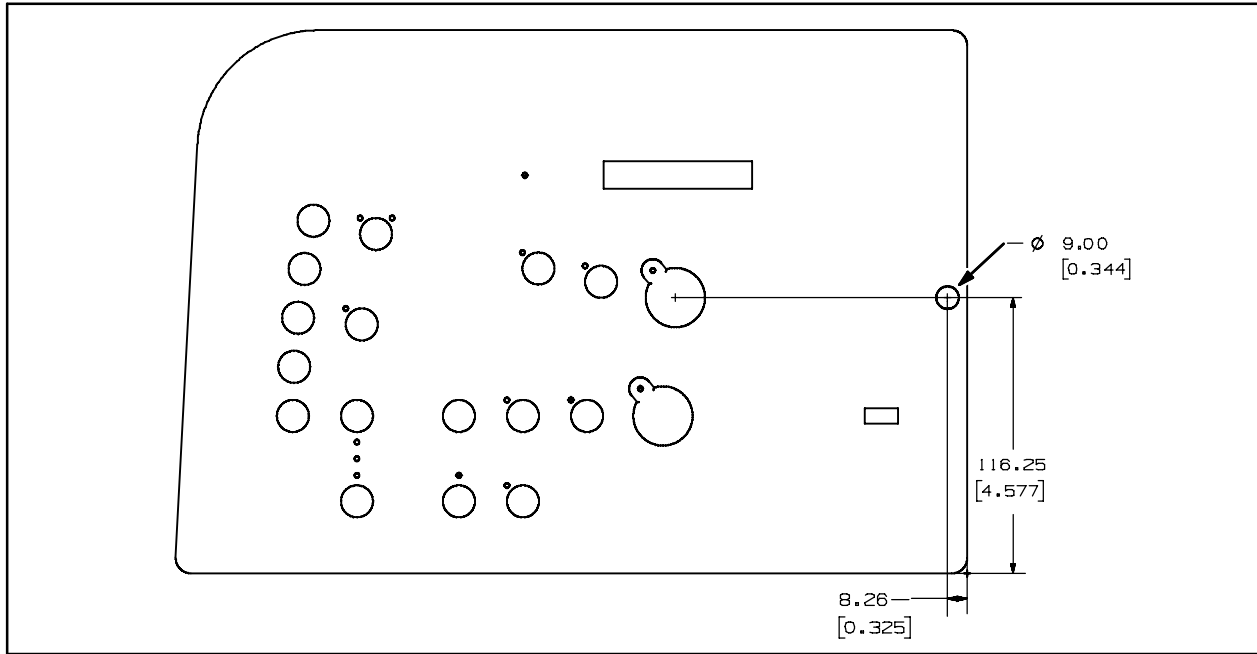

FIG. 3
13. Drill a 11/32" (0.344") hole through the instrument panel assembly. Refer to Fig. 3.
18. Insert the *ec-H20* warning light into the hole drilled in the previous step. Refer to Fig. 3.